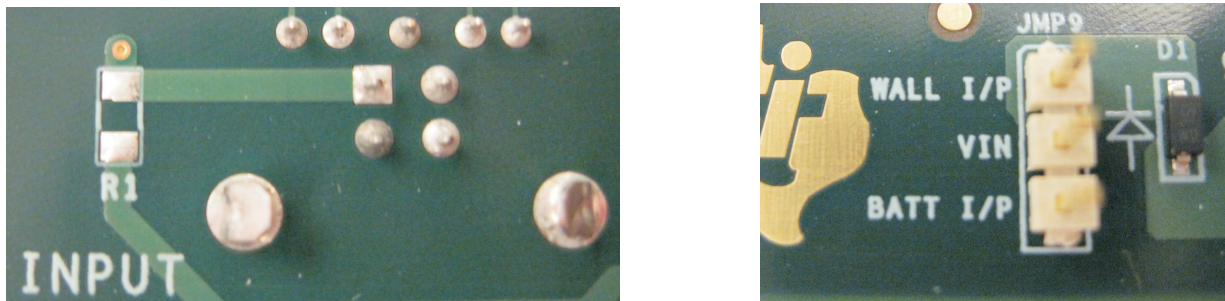

Figure 3. SN65LVPE502CP EVM Location of R1 and JMP9
3. Remove any shunts on JMP9 (see Figure 3).
4. Install a 0-Ω, 0805 sized SMT resistor at location R1 (see Figure 3).